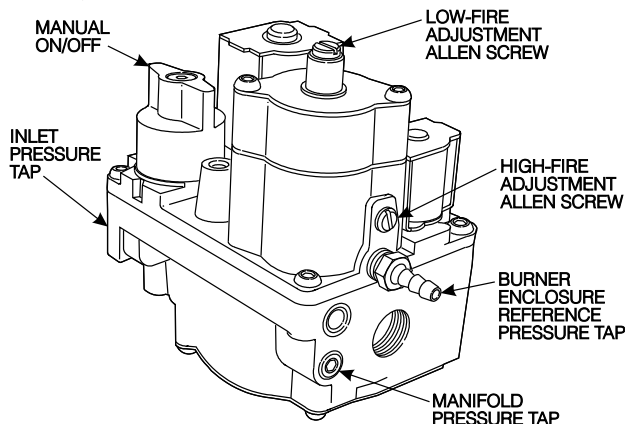

Fig. 45—Redundant Automatic Gas Valve
- Remove burner enclosure front and caps that conceal adjustment screws for gas valve regulator. (See Fig. 45.)